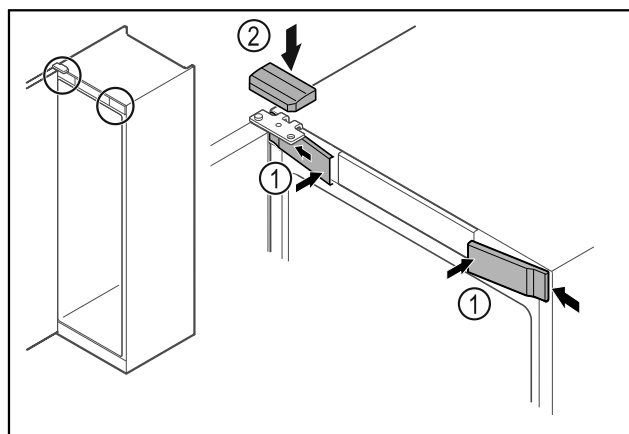

Fig. 23
- Hook in the front covers Fig. 23 (1) on the side and snap them into place.
- Snap on the top cover Fig. 23 (2) from above.